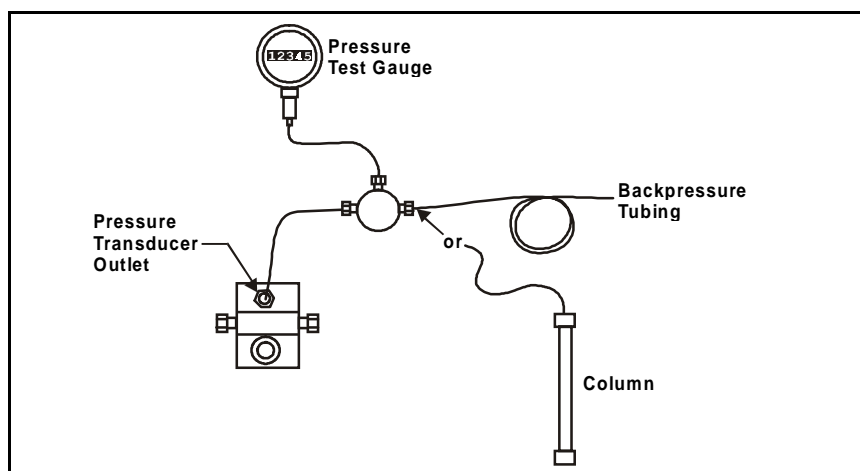

Figure C-26. Pressure Gauge Installation
- Install a pressure test gauge between the pressure transducer outlet and either a length of backpressure tubing, or a column (see Figure C-26). A pressure gauge assembly (P/N 046175), which includes a gauge with an accuracy rating of  $\pm 0.25\%$ , and required fittings, is available for this purpose. Contact your Dionex office for details.